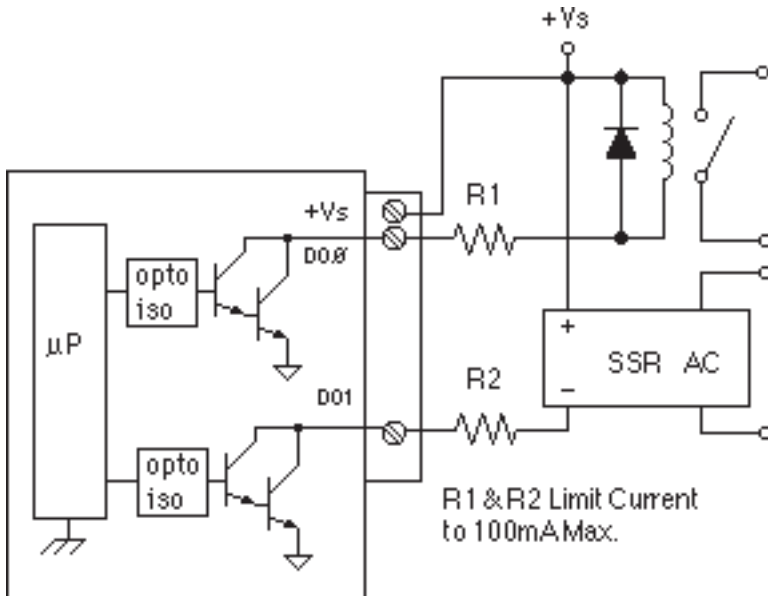
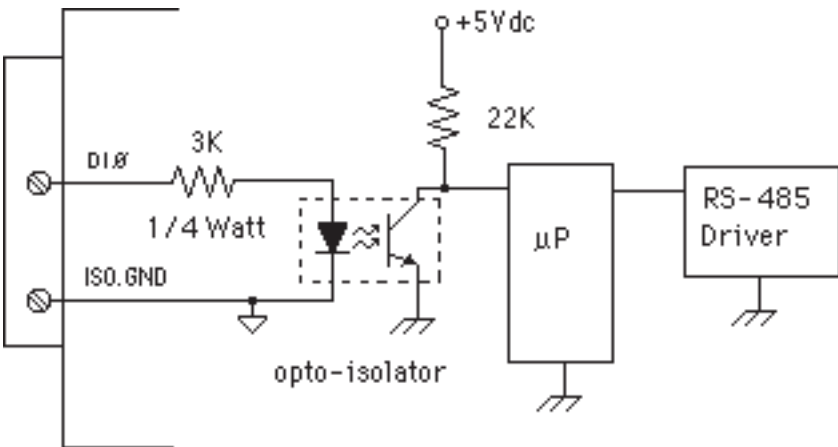

Figure 6.1 Digital Outputs Used With Relays
Figure 6.2 Typical Digital Input Circuit.
A digital output consists of an open-collector transistor controlled by the host, using the Digital Output (DO) command (See Figure 6.1). The open-collector configuration is used to provide maximum versatility in interfacing to solid state relays (SSR's) or to standard logic levels such as TTL or CMOS. Each digital output can sink up to 100mA and can withstand up to 30V. Power in the transistor must be limited to 300mW. The emitter of each transistor is tied to the GND terminal on the input connector.
A typical connection of a digital output is shown in Figure 6.1. In this case, a solid state relay is controlled by the DIN-172 module. The SSR can then be used to control AC power to alarms, heaters, pumps, etc. A typical connection to a logic input is shown in Figure 6.2. In some cases, the common-mode voltage of the GND terminal may be significantly different from the ground potential of the logic input to be interfaced. This may occur when
the module is powered remotely. In this case, an opto-isolator may be used to eliminate the common-mode voltage. See Figure 6.2. In all cases, the current switched by the transistor may not be more than 100mA.
Digital inputs are used to sense switch closures and the state of digital signals. The inputs are protected to voltages up to  $\pm 30\text{V}$  and are normally pulled up to the logic "1" condition (see Figure 6.2). Digital inputs can be read by the Digital Input (DI) command. Voltage inputs less than 1V are read back as '0'. Signals greater than 3.5V are read as '1'. No other commands have any affect on the inputs.